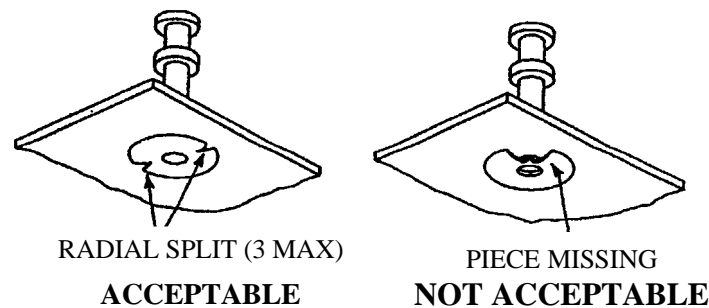

Figure 8-1. Terminal Damage
b. After swaging or flaring, the rolled area or flange shall be free of circumferential splits or cracks, but may have a maximum of three radial splits or cracks provided that the splits or cracks are separated by at least 90° and do not extend beyond the coiled or flared area of the terminal (Figure 8-1).